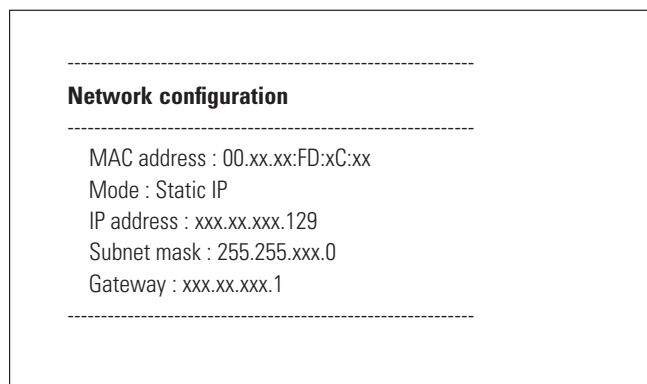

Figure 46. Read Network Settings Option
- **Read Network settings:** To view the network settings (see Figure 46).